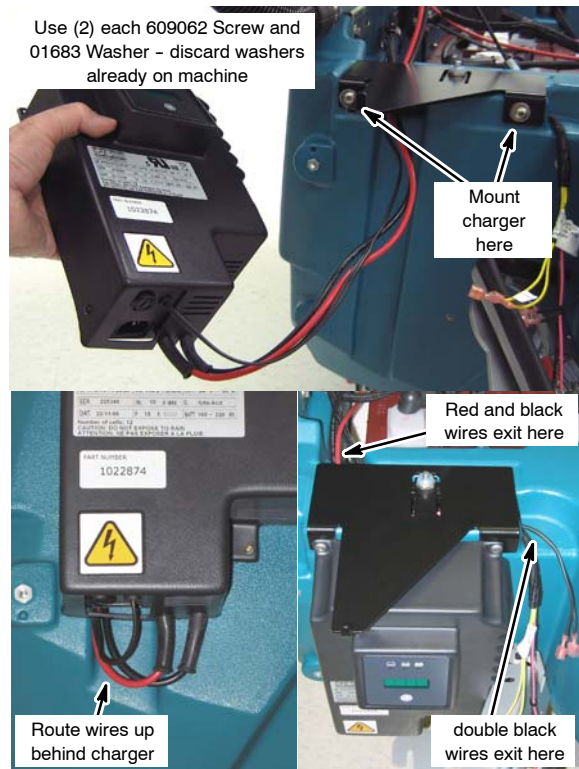

Fig. 4
- Mount the on-board charger to the machine in the location shown with the wiring routed up in the channel behind the charger. Use just the top two mounting screws at this step, and use a small amount of blue adhesive on the screw threads. Route the red and black wires forward to the battery compartment. Route the double black wires to the right and down to the squeegee bracket as shown (Figure 4).